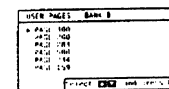

Fig. 51.
- 2 Select User Pages with Δ or ∇ - and press OK. A table of the stored preferred pages will be displayed. (See Fig. 51)